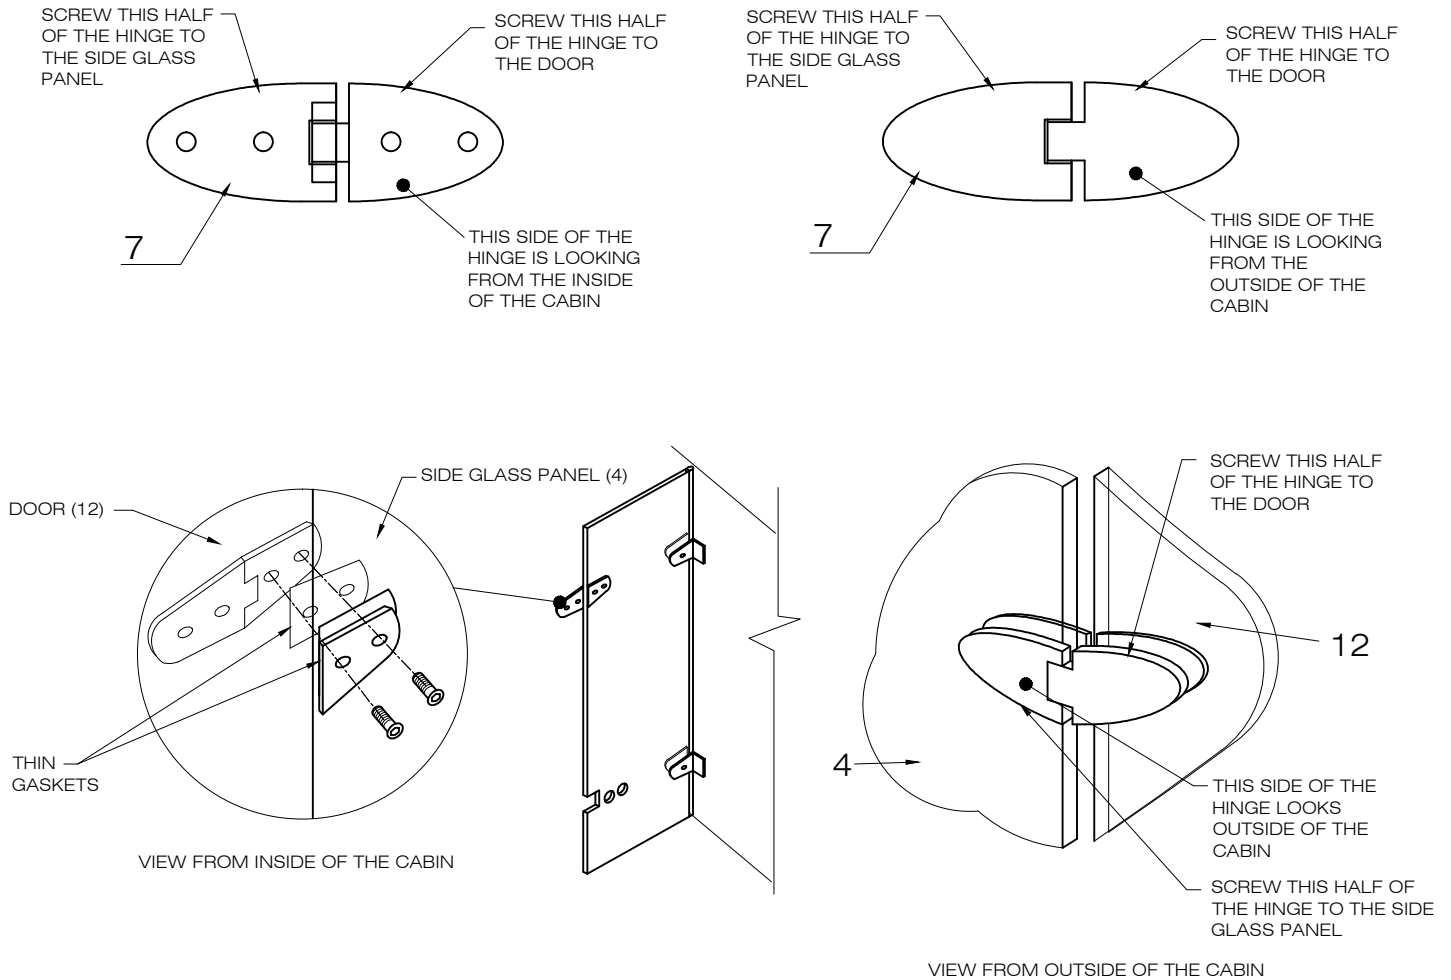
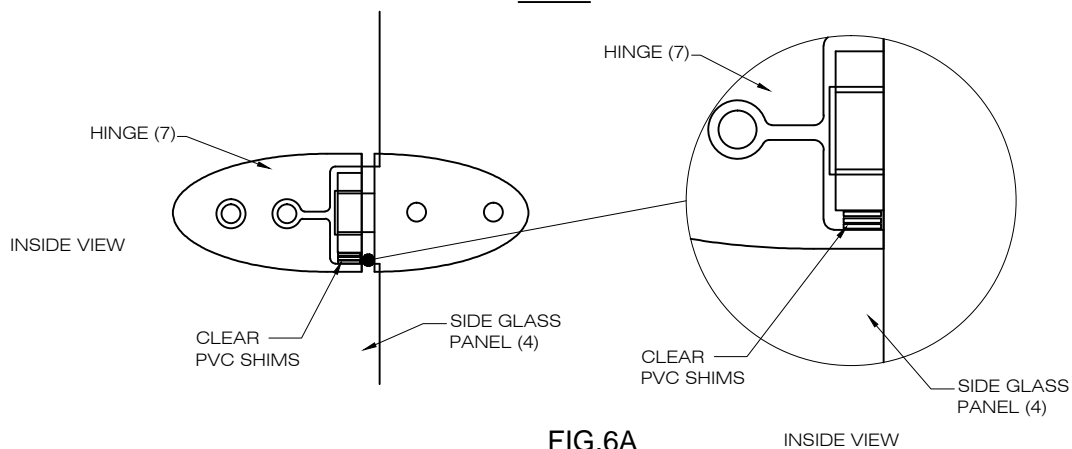

FIG.6
FIG.6A
2. Position hinges on the side glass panel. [SEE FIG.6] Place a shim between the glass and the hinge on the bottom. [SEE FIG.6A]